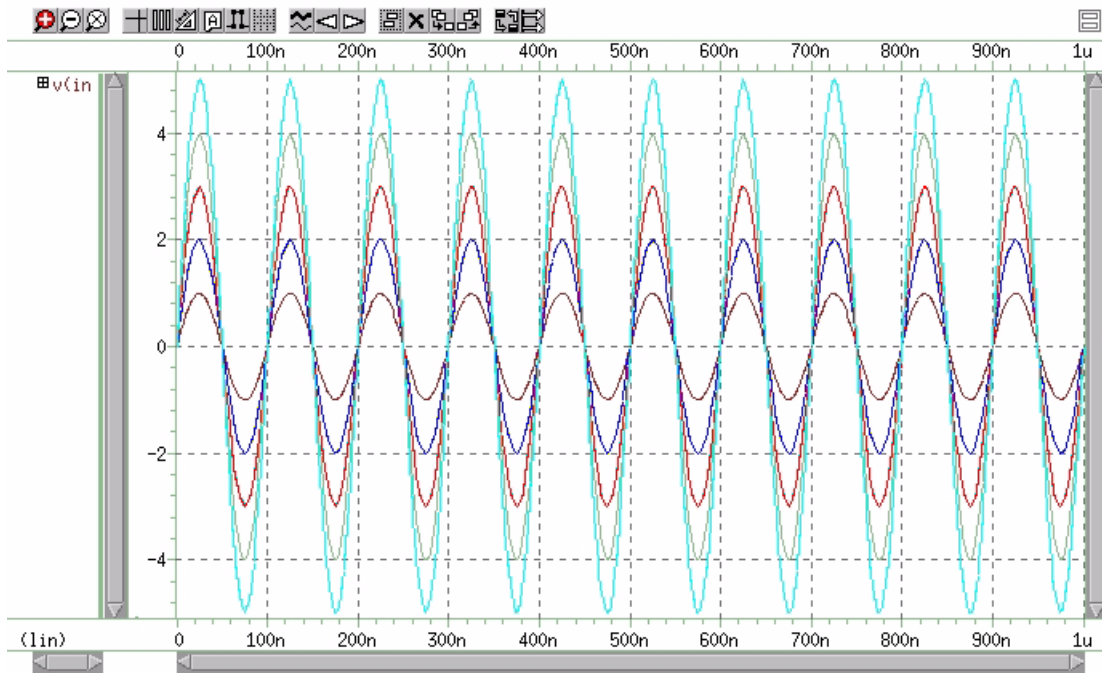

Figure 235 Plot of Voltage on Node in
5. Left-click on the signal $v(in)$, then drag and drop the selected signal into the WaveView panel to display a plot similar to the one shown in Figure 235 on page 919.